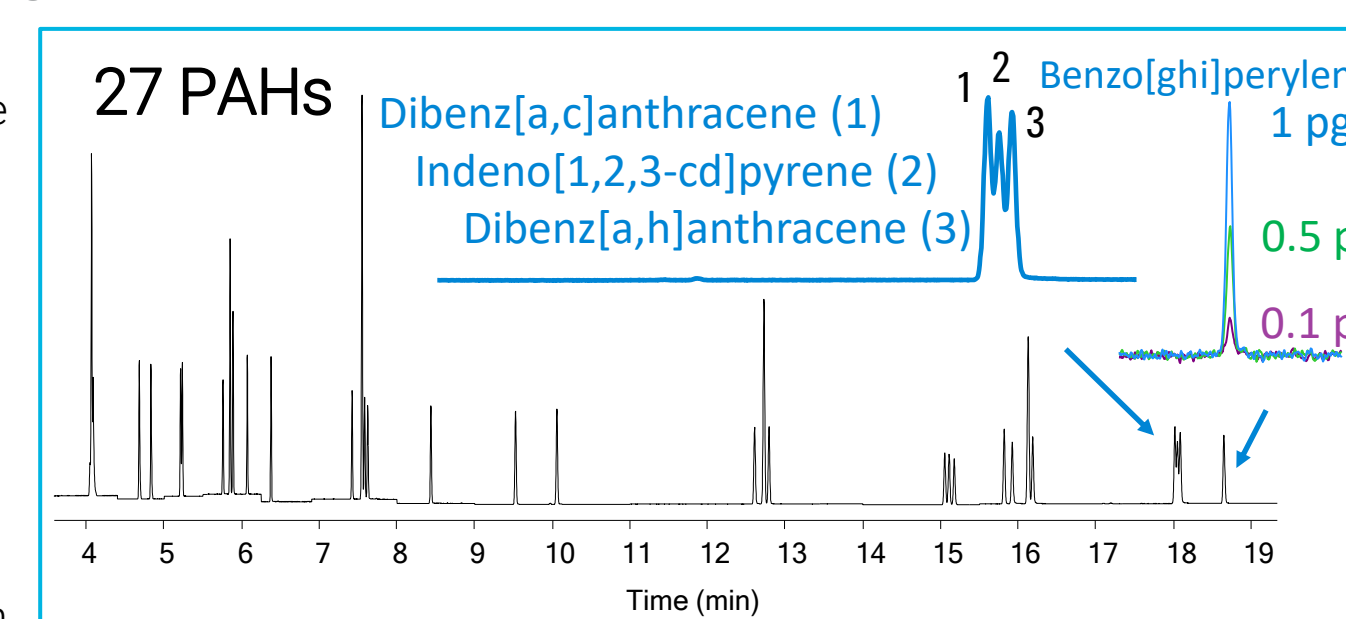

Figure 3. SIM TIC of 27 PAHs (DB-EU PAH 20m x 0.18 mm id x 0.14 µm).
PAHs are durable compounds that tend to tail with He carrier gas. With H₂ carrier and the HydroInert source, **excellent peak shape** with no or little tailing was observed (Fig. 3). The MDL and linearity are comparable to or better than those with He. **Excellent linearity** was observed over the range of **<1 – 1,000 µg/L** with an average RSE = 9.5. The average MDL was about **0.1 µg/L**. Full details are available in ref 5. Excellent results were also obtained using the 7000E GC/TQ with H₂ carrier and the HydroInert source. That system was configured with backflushing and response stability was shown over 500 injections with the challenging soil extract. This is detailed in ref. 6.